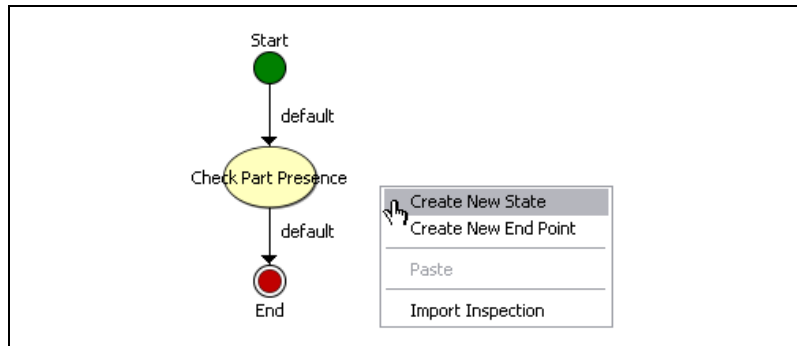

Figure 6-2. Creating a New Inspection State
4. Right-click an open area on the state diagram and select **Create New State** to add a new state to the inspection, as shown in Figure 6-2. The Edit State Name dialog box opens.